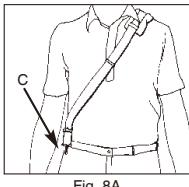

Fig. 8A
2. Attach the harness clip (C) to the ring (D) mounted on the shaft (Fig. 8A and 8B).